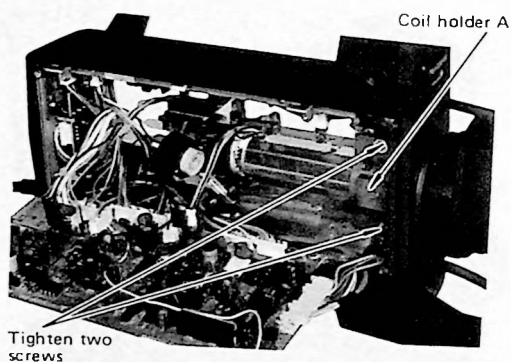

Fig. 3-13
- Install the coil holder A to the chassis with the two screws (Fig. 3-13)